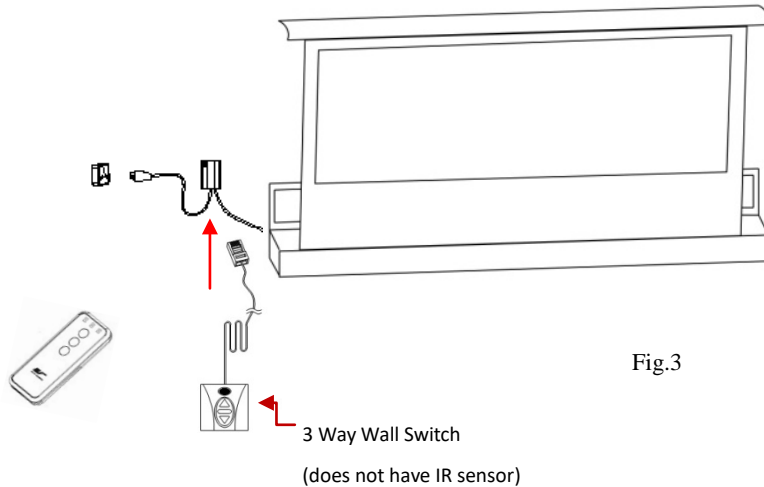

Fig.3
- 3) **3-Way Wall Switch (Item C, Fig 3)**: The 3-way wall switch manually controls the screens up/stop/down button by connecting directly into the screen's RJ-45 port.